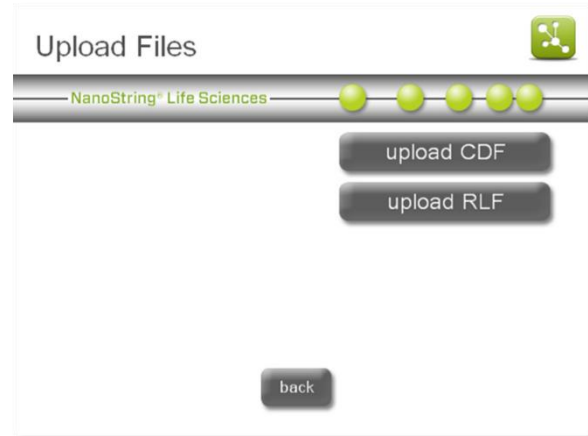

Figure 63: The 'Upload Files' screen.
2. From the Main Menu, press **Upload Files**. The 'Upload Files' screen will appear (**Figure 63**).